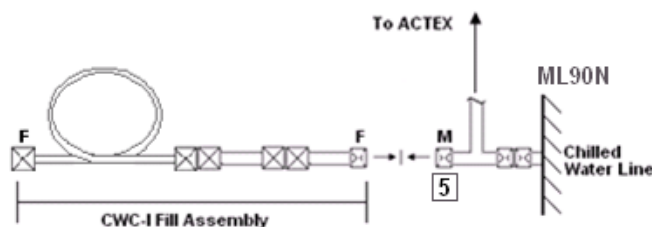

Figure 10-3.- CWC-I Fill Assembly connection at ML90N.
- ML90N 2. CWC-I Fill Assembly →|← Chilled Water Line Tee QD (#5) (see fig 10-3)